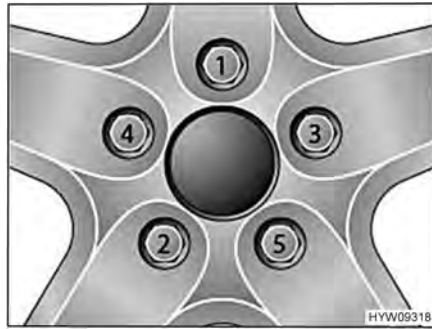

Fig. 121 Tightening the wheel nuts or wheel bolts cross-wise
- Tighten the wheel nuts or wheel bolts in the order shown in Fig. 121. In order to do this, use a torque wrench and comply with the specified tightening torque (see section 13.5.2).
- Check regularly that the wheel nuts or wheel bolts are firmly seated. Re-tighten the wheel nuts or wheel bolts of a changed wheel after 50 km. While doing so, proceed in the order shown in Fig. 121.
- When using new or newly painted rims, re-tighten the wheel nuts or wheel bolts once again after approx. 1,000 to 5,000 km (600 miles to 3,000 miles). While doing so, proceed in the order shown in Fig. 121.
- ▷ Tighten the wheel nuts or wheel bolts cross-wise (Fig. 121).